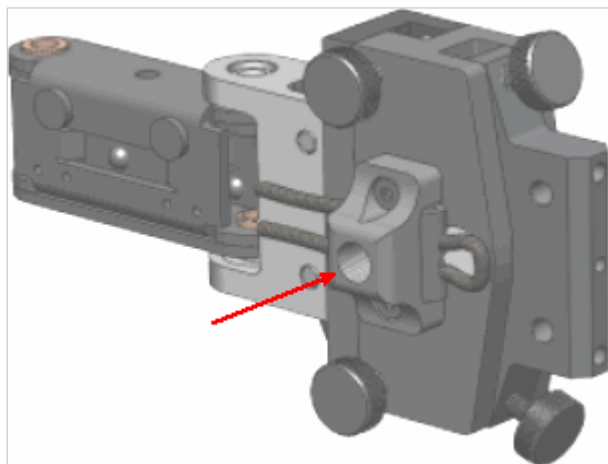

Figure 6 Combo anchor on preset mounting interface block
- b. Align the sockets on the shoulder hinge block and the mounting interface block, as in Figure 6.